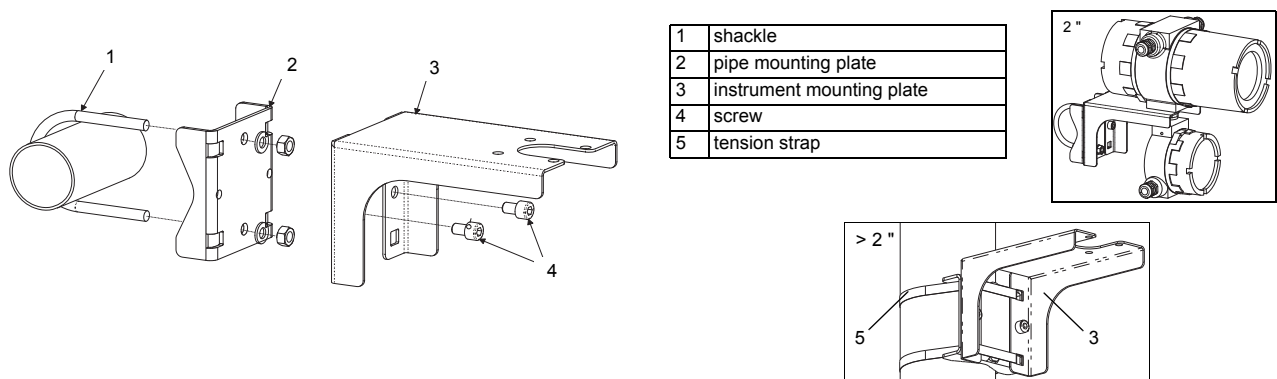

Fig. 6.1: Pipe mounting kit
- Fix the bottom side of the upper housing to the instrument mounting plate (3) (see Fig. 6.1).
- Fix the pipe mounting plate (2) to the pipe (see Fig. 6.1).
- Fix the instrument mounting plate (3) to the pipe mounting plate (2) with the screws (4).
- Fix the bottom side of the upper housing to the instrument mounting plate (3).
The pipe mounting kit is fixed to the pipe with tension straps instead of the shackle (see Fig. 6.1). Push the tension straps (5) through the holes in the instrument mounting plate (3).